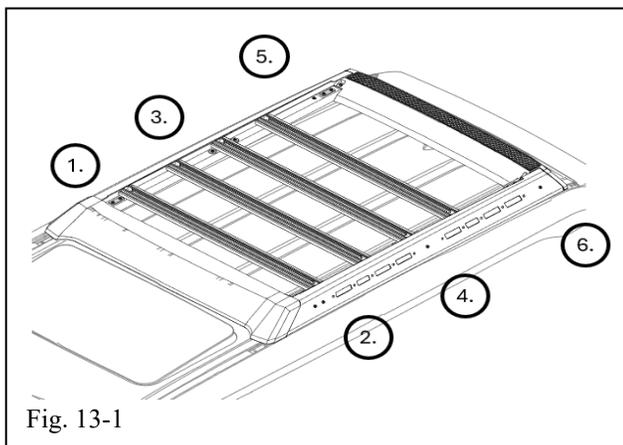

Fig. 13-1
- (a) Tighten all 12 bolts completely to 14 Nm or 10.3 ft.lb following the sequence in (Fig. 13-1).